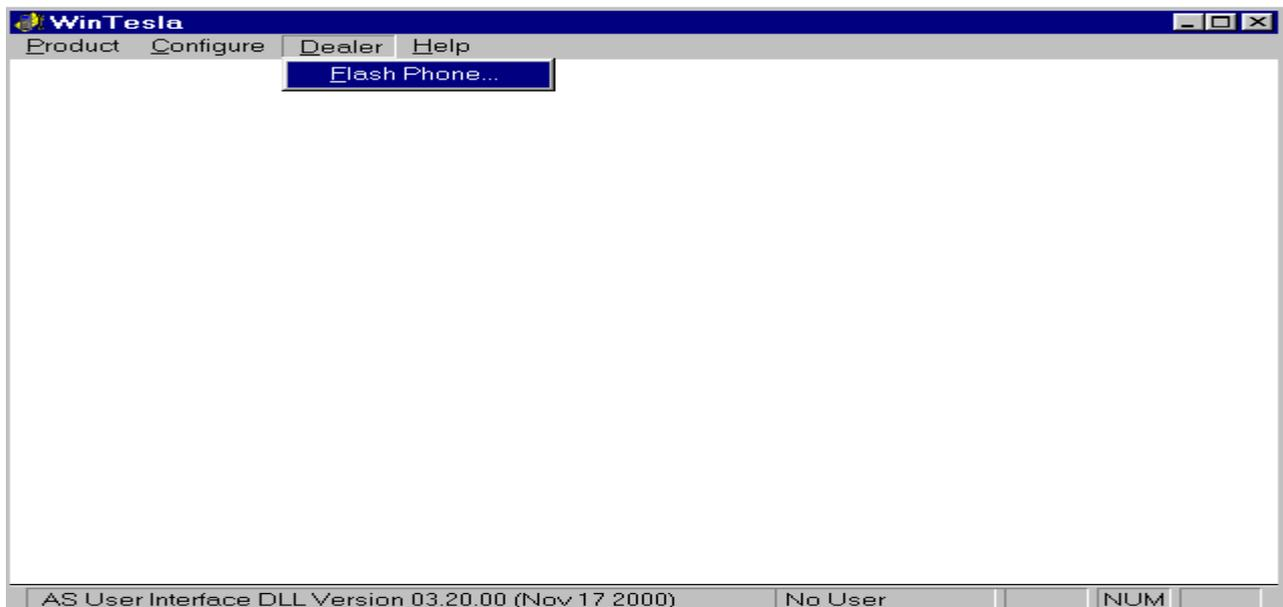

Figure 13. Wintesla dialog when the RAE-5 is not running
3. Then use Dealer > Flash Phone (Figure 13)